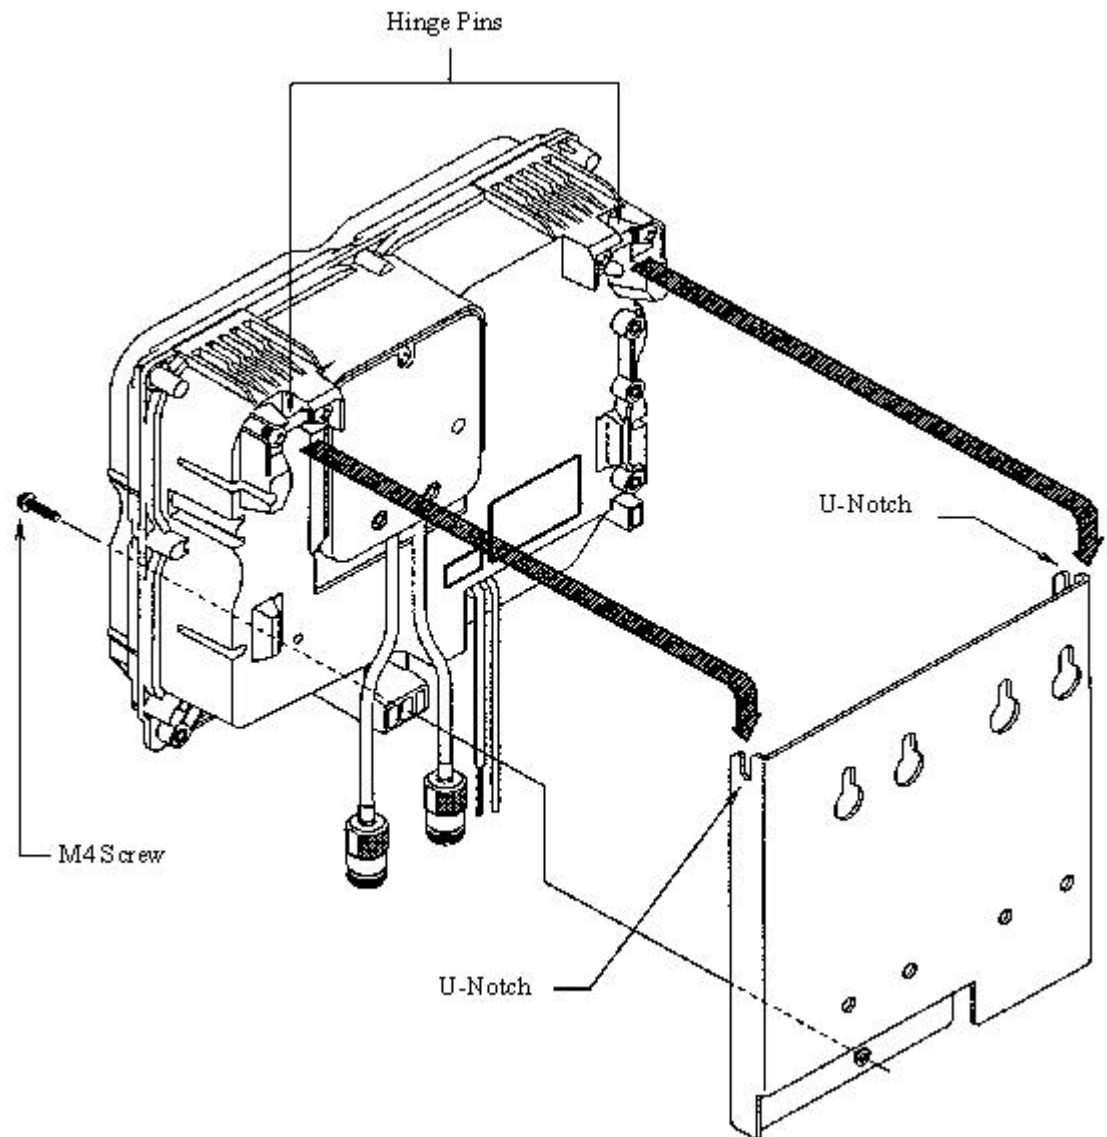

Figure 3-19: RP Attachment to the Mounting Plate
7. Affix main unit to the mounting plate with the M4 screw as shown in Figure 3-19.